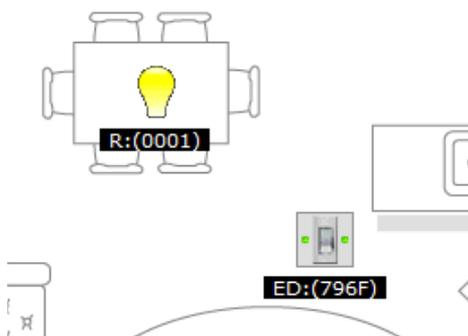

Figure 15. The On/Off Switch Sending “Off” to the On/Off Light
4. Only for the 1321x-EVK and 13192-EVK: Press SW2 on the On/Off Switch board. This sends the On command to the light. Notice how LED2 on the On/Off Light board turns on and the On/Off Light icon on the ZeD GUI changes the light bulb state to on as shown in Figure 15. The small LEDs on the On/Off Switch icon also turn green which means that the Combined Interface also received the On command from the On/Off Switch and updated the icon.